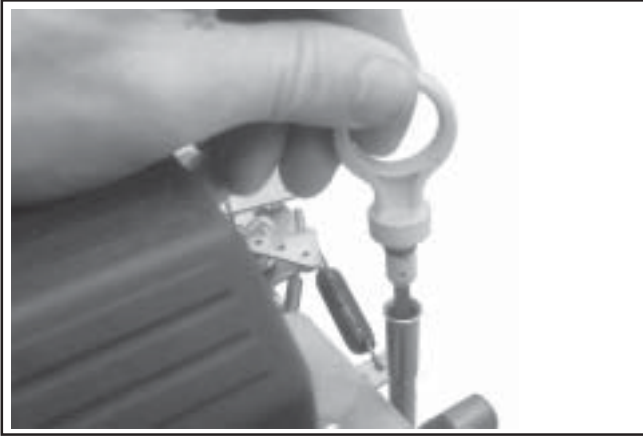

Figure 11-104. Reinstall the Dipstick in Tube.
5. Add oil to bring the level up to "F" mark and reinstall the dipstick. See Figure 11-104.